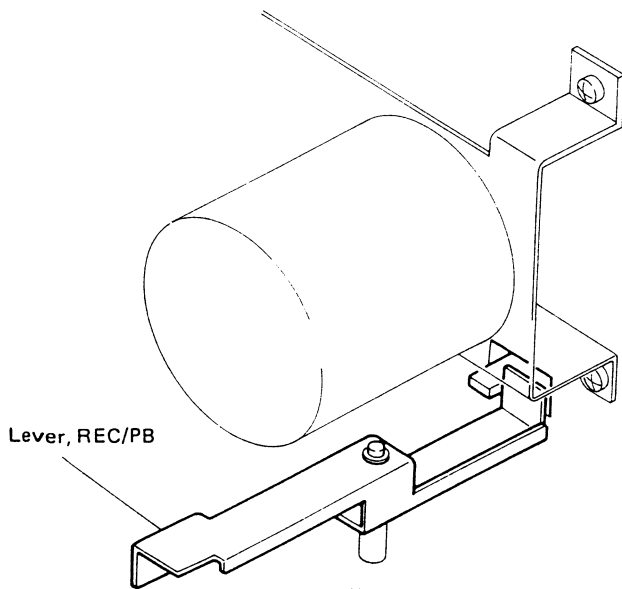

Fig. 2
- 1) Mount the rec/pb lever to both Deck (1) and Deck (2) in position as illustrated. (See figure 2)